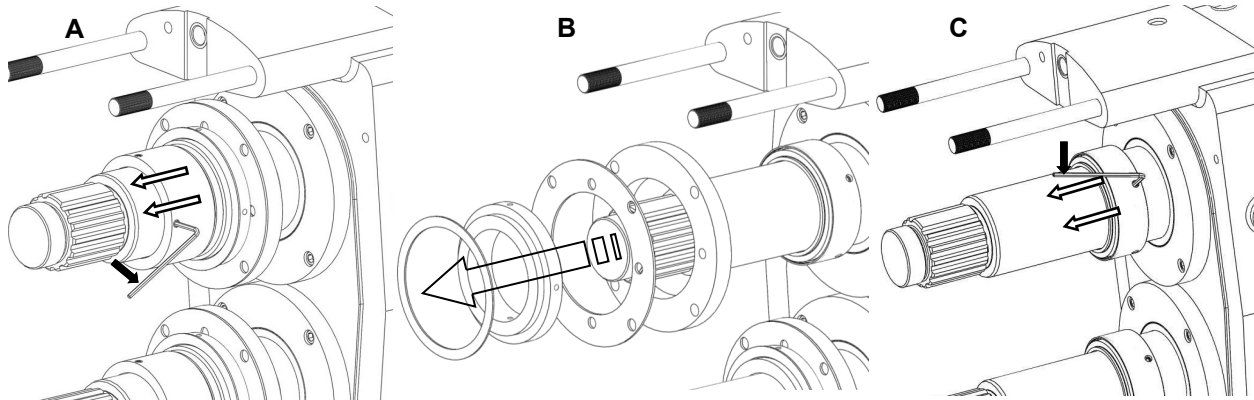

Figure 40: ZP1 320 Double Mechanical Seal Disassembly
*Disassembly, continued:* Once the body is removed, loosen the set screws on the front rotating seal assemblies and slide them off the shafts (Figure 40, A). Next, remove the seal glands, gaskets, and stationary seals from the shafts (Figure 40, B). Loosen the set screws on the back rotating seal assemblies and slide them from the shafts (Figure 40, C). Inspect all seals for chipping, scratches or any other evidence of cracks on the seal faces.